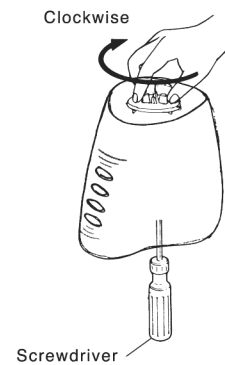

Fig. 4
2. Connector(Lower) -Fig.4
1. Remove the bottom plate and Body U .(Fig.4)